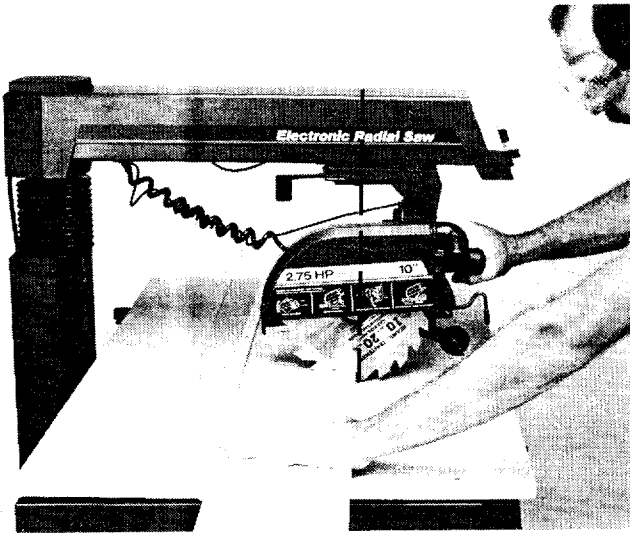

Fig. 112 Distance Needed to Complete Crosscut
13. Pull blade through fence and workpiece just enough to complete the cut. Fig 112